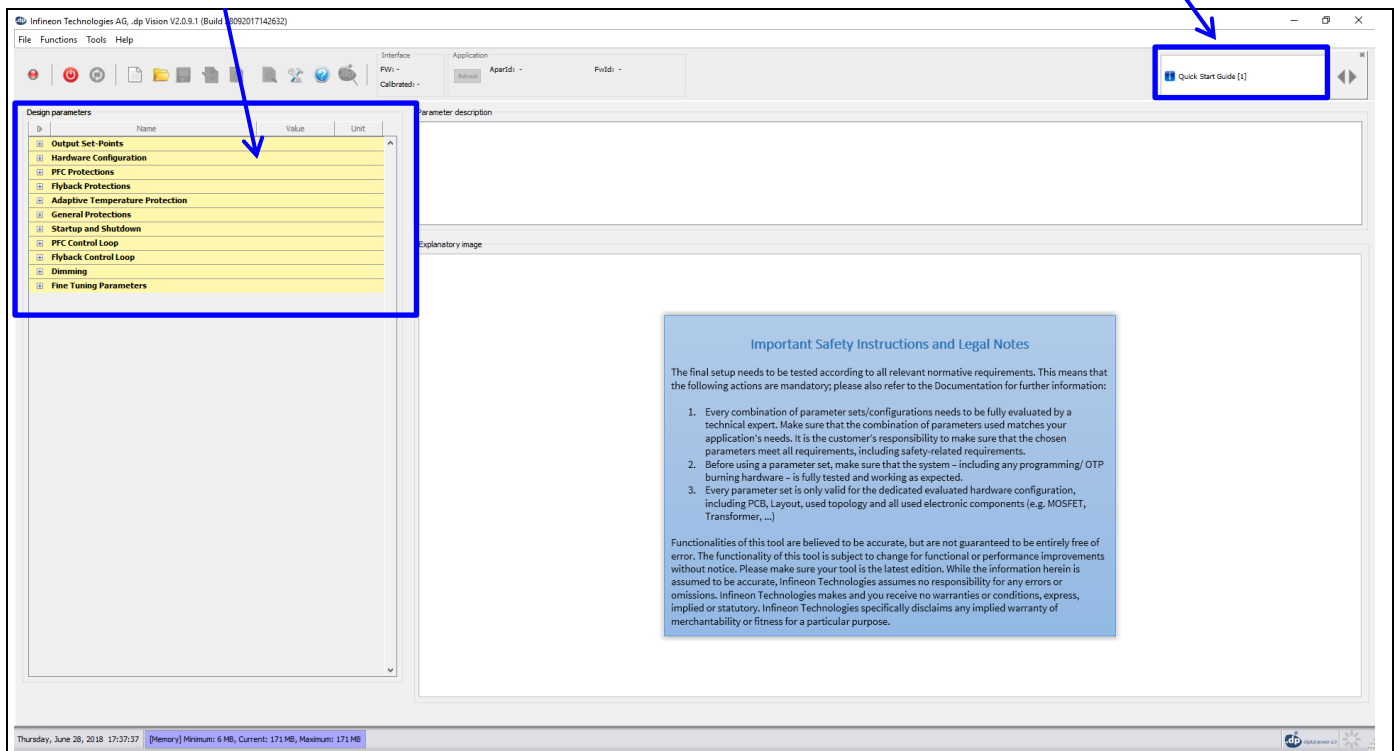

Figure 7 Parameters file loaded in .dp Vision
Load the XDPL8220 parameters configuration file (\*.csv) in the folder (HOME) \Infineon Technologies AG\ .dp vision\Parameters as shown in Figure 7. Please select the corresponding file (e.g., for a 50 W board choose the “XDPL8220\_FWvx.x.x\_50W” file).
After loading the parameters .csv file, a list of XDPL8220 configurable parameters will show (see the box on the left in Figure 7). These values can be modified by users and will turn blue.
**Note:** The message bar shown in Figure 7 provides detailed information. For further information, please refer to the “dpvision User manual”.
1	Open configuration file and change parameter value (see example in <a href="#">Figure 7</a> ).
1	Load configuration file (see example in <a href="#">Figure 7</a> ).